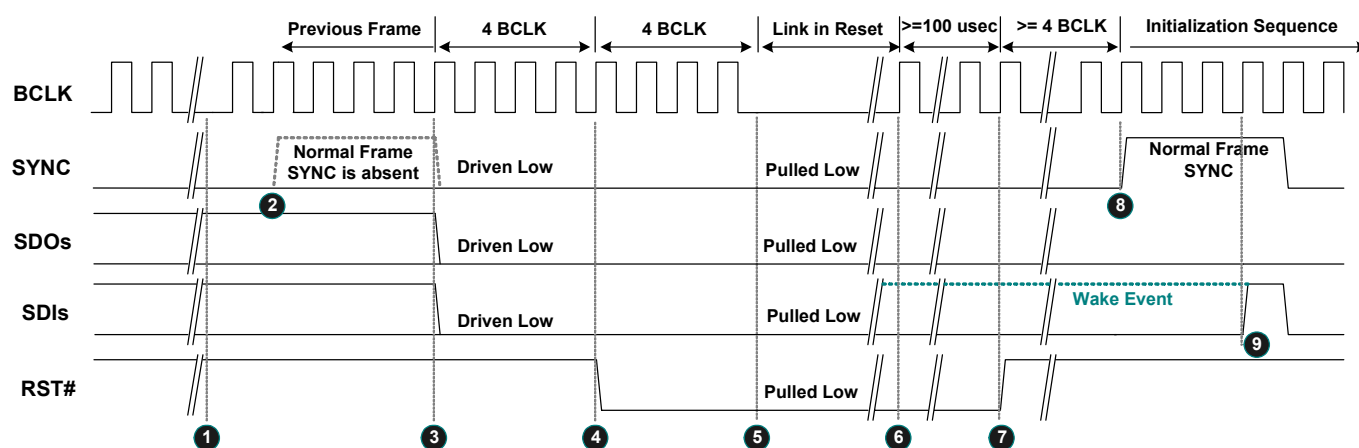

Figure 14. Link Reset Timing
3. Software initiates power management sequences. Figure 14, page 22, shows the 'Link Reset' timing including the 'Enter' sequence (❶~❺) and 'Exit' sequence (❻~❾)